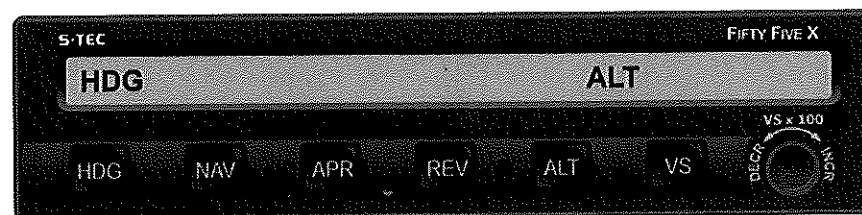

Fig. 2-7. AP Display, HDG and ALT HOLD Modes Engaged (Pre-Flight)
9. Press ALT mode selector switch to engage altitude hold mode.	ALT annunciation appears with HDG on AP display, as shown in Fig. 2-7.